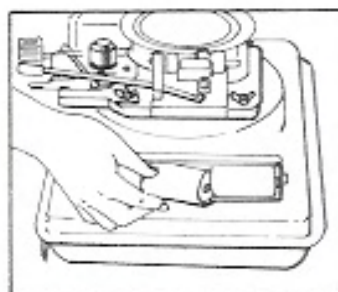

Fig. 3
- (4) Insert two dry cells, making sure + - marks correspond (Fig. 3).